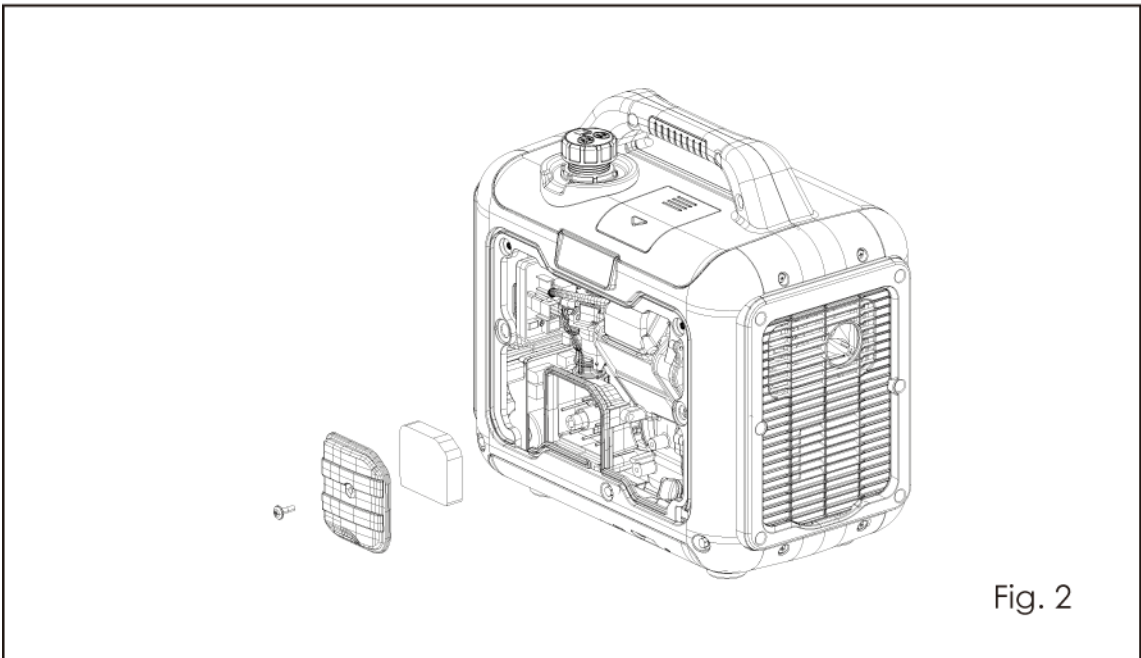

Fig. 2
- Remove the air filter element (Fig. 2). Inspect for dirt, debris or damage. Clean or replace as required.
2. Place the engine control switch (Fig. 2) into the ON position.
2. Place the engine control switch (Fig. 2) into the OFF position.